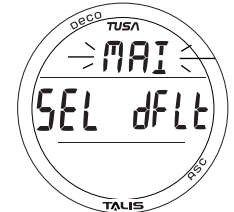

Fig. 17 - SELECT WATCH DEFAULT TIME
**Select Default Time**, information includes (Fig. 17):